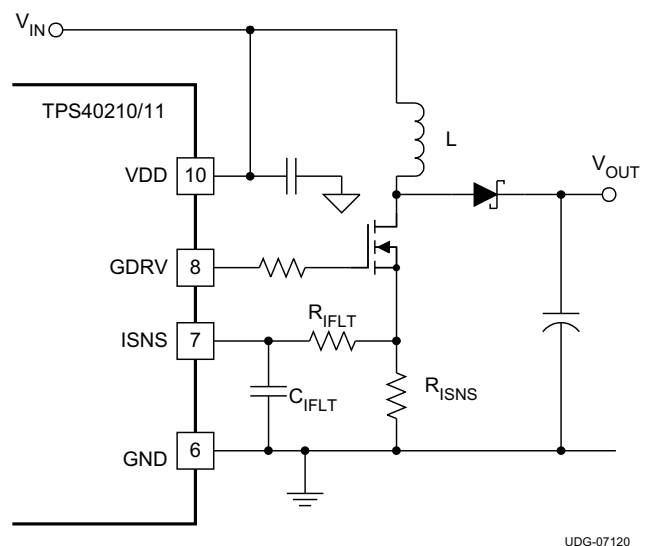

Figure 23. Current Sense Components
- $V_D$  is the drop across the diode in Figure 23
It is possible to increase the voltage compensation ramp slope by connecting the VDD pin to the output voltage of the converter instead of the input voltage as shown in Figure 23. This can help in situations where the converter design calls for a large ripple current value in relation to the desired output current limit setting.
In most cases, a small filter placed on the ISNS pin improves performance of the converter. These are the components  $R_{IFLT}$  and  $C_{IFLT}$  in Figure 23. The time constant of this filter should be approximately 10% of the nominal pulse width of the converter. The pulse width can be found using Equation 11.